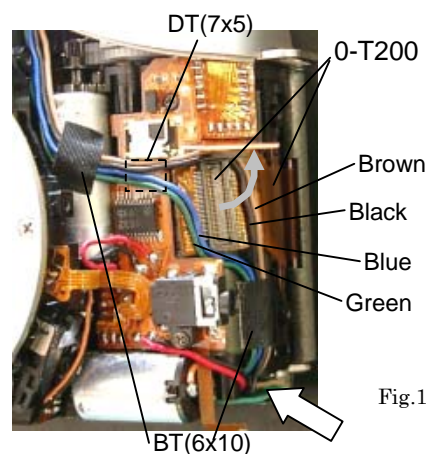

Fig.12
- The 4 lead wires of 0-A301 should be arranged as shown in Fig.12.